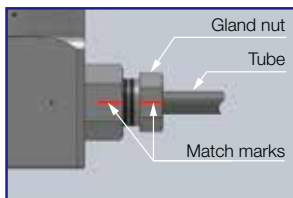

Fig. 2
- If you want to disassemble the joint after having connected the pipe once and re-connect to the pipework again, paint a pair of match marks using a marking pen (Ref. thick lines in Fig. 2) to indicate the position of gland nut before loosening. Check the secure re-tightening to the match marks at re-assembly.